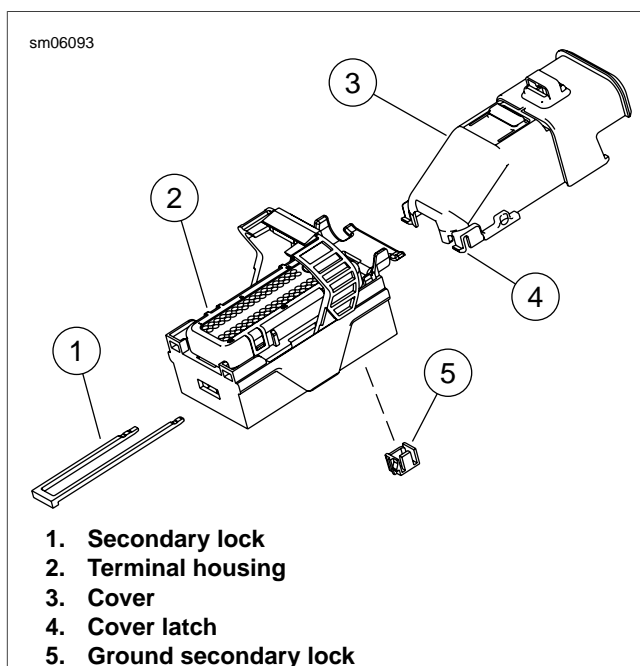

Figure A-39. Delphi 73-Terminal ECM Connector
2. See Figure A-39. Release latches (4) that retain cover (3) to housing (2) and remove cover.
1. See Figure A-39. Remove secondary lock (1).
Secondary lock has one short leg and one long leg. Be sure to install correctly as shown in Figure A-39.
6. See Figure A-39. Install ground secondary lock (5) and install secondary lock (1) as shown.